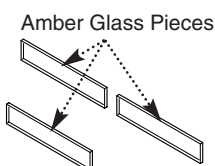

Fig. 63
5. Carefully remove the three amber glass pieces (Fig. 63).